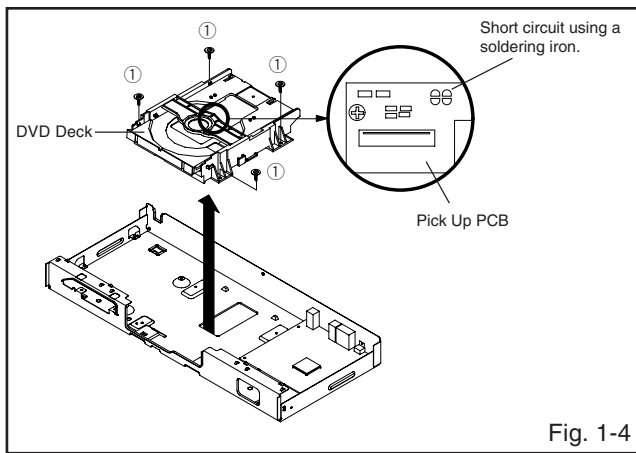

Fig. 1-4
1-4: DVD DECK (Refer to Fig. 1-4)
1. Short circuit the position shown in **Fig. 1-4** using a soldering iron. If you remove the DVD Deck with no soldering, the Laser may be damaged.
3. Remove the 4 screws ①.